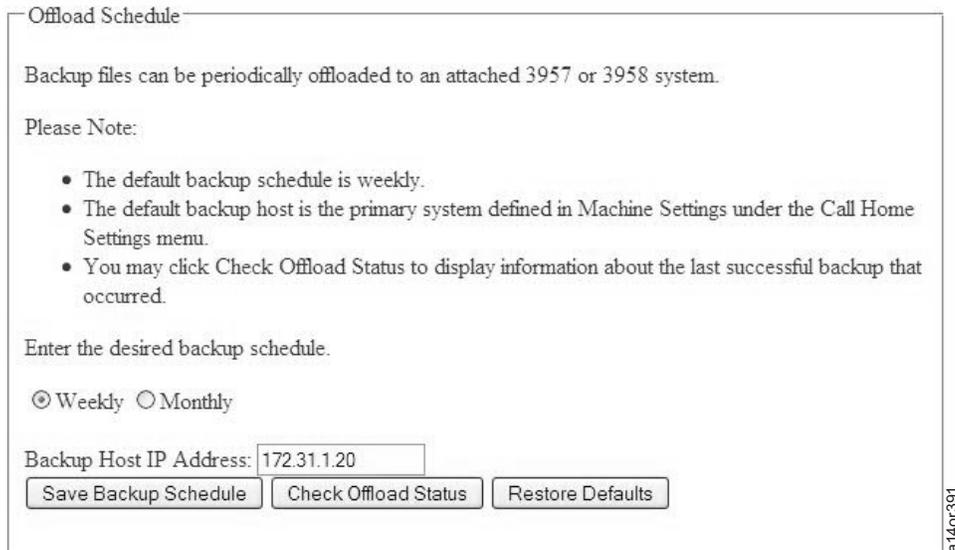

Figure 126. Offload Schedule Screen
3. Select **Backup/Restore**. You see Figure 126 on page 100.